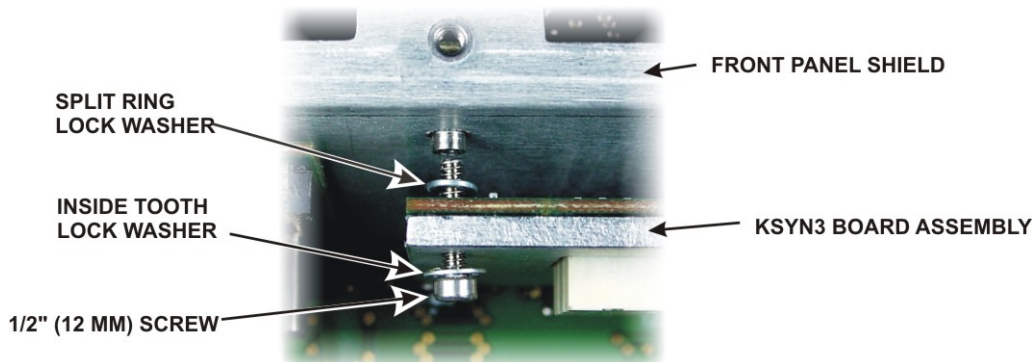

Figure 9. KSYN3 Assembly Mounting Hardware.
□ Replace the KSYN3 board(s) in the K3, ensuring all the pins of the multi-pin connectors mate properly with the connectors on the RF board. Secure the KSYN3 assemblies to the front panel shield with the hardware shown in Figure 9 at each top corner. Note that a split ring lock washer is used between the board and the front panel shield. This washer is required to ensure proper spacing between the KSYN3 board and the shield. If your K3 did not have washers installed here, washers are included with his mod kit. Do not use inside tooth lock washers behind the board. They are large enough to short out to nearby traces and solder pads on the KSYN3 board. **Only tighten the screws until the split ring lock washers are compressed. Do not over-tighten!**